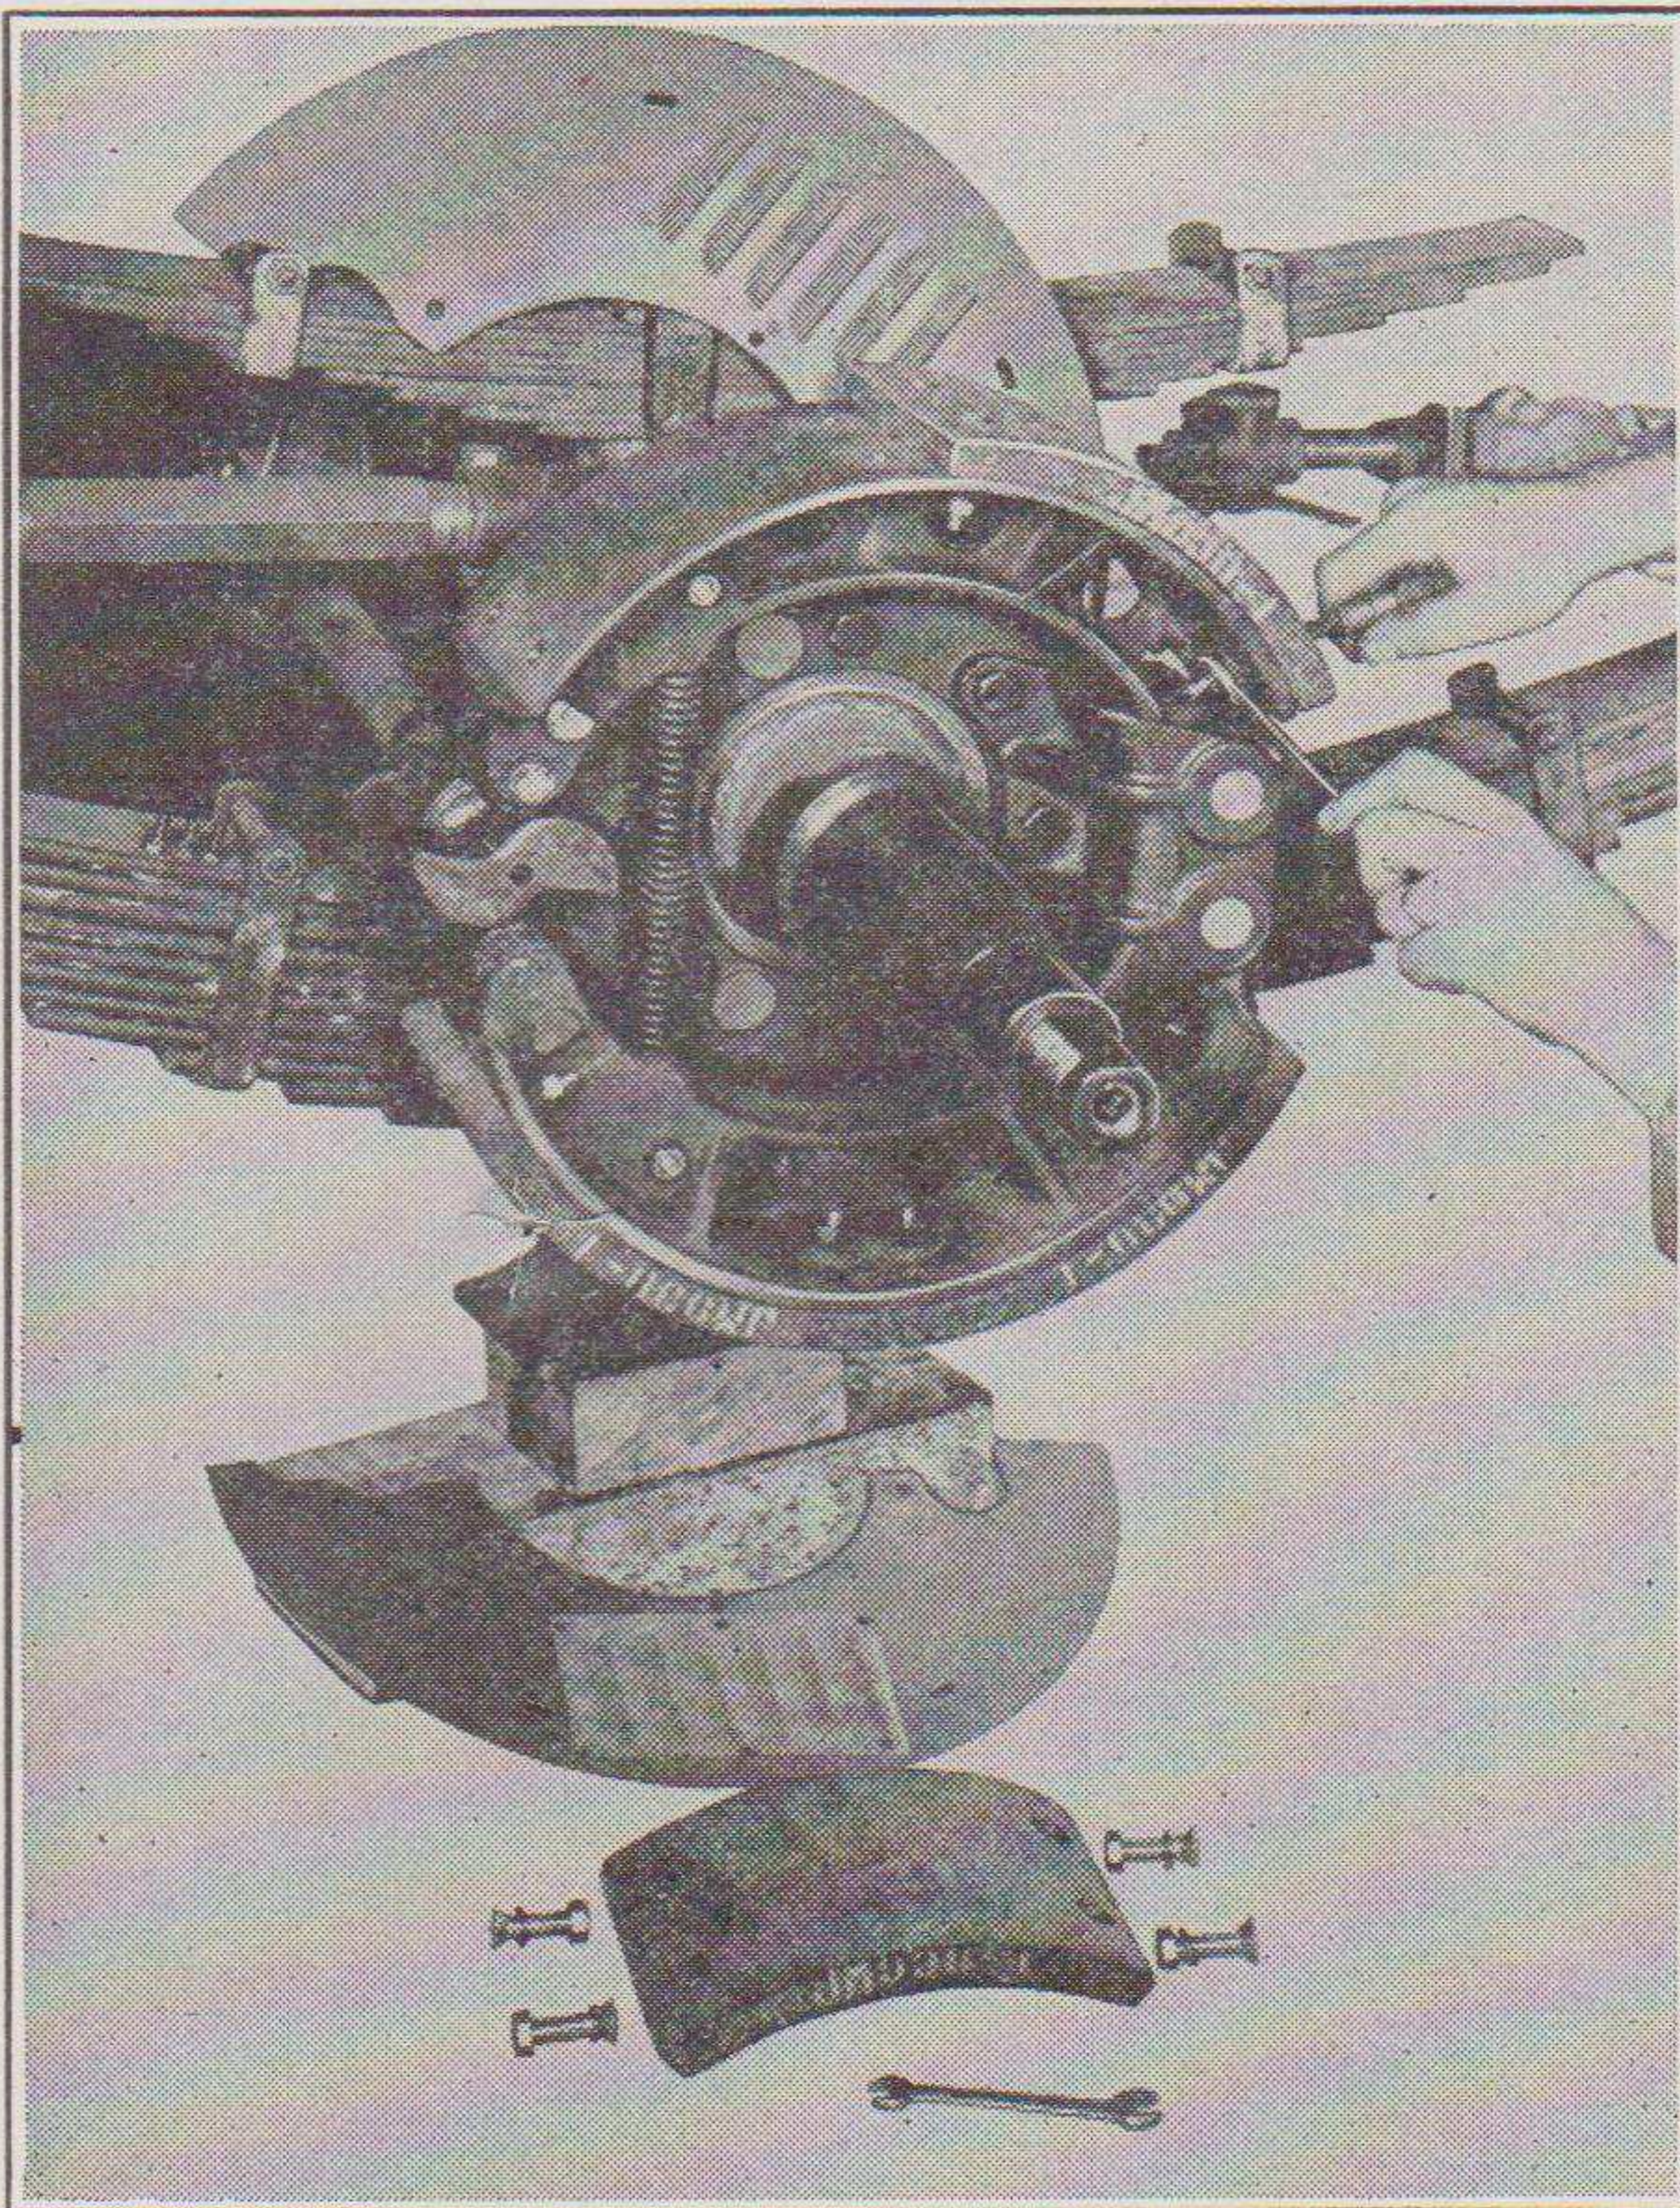

FIGURE 13. RELINING BRAKE SHOES
2. BRAKE RELINING.—*a.* Visual inspection of brake shoes and linings can be made without removing wheels from the axle. Simply remove the two dust shields, which are bolted to brake adapter with six $\frac{1}{4}$ " cap screws. This exposes the assembly to check for lining thickness, grease on the lining, etc. (Refer to Figure 13.)
(1) Remove wheel, hub and drum as an assembly. (See instructions for removing hub assembly in Wheel Section.)
(2) Remove all four blocks of brake lining using a wrench and screw driver on the four brass nuts and screws holding each section to shoe. (Refer to Figure 13.)
(3) Clean all foreign matter from the shoes and install new brake blocks.
(4) Adjust the brakes in accordance with the major brake adjustment procedure.